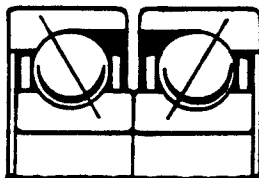

Figure 2. Correct Bearing Mounting
Press the heated outboard bearings on the impeller shaft, making certain that they are installed with the loading opening sides facing each other and the ball contact angles converging toward the center (see Figure 2).
Press the oil seal (90) in the bearing cap with the lip positioned toward the bearings as shown in Figure 2.
Install the oil seal (94) in the pedestal body with the lip positioned as shown in Figure 2. Install the slinger ring on the shaft. Secure the pedestal assembly to the intermediate, with "TOP" in proper position.
Press the oil seal (89) into the seal plate with the lip positioned as shown in Figure 2. Reinstall the oil cup (93) in the seal plate. Install the seal plate in the intermediate.